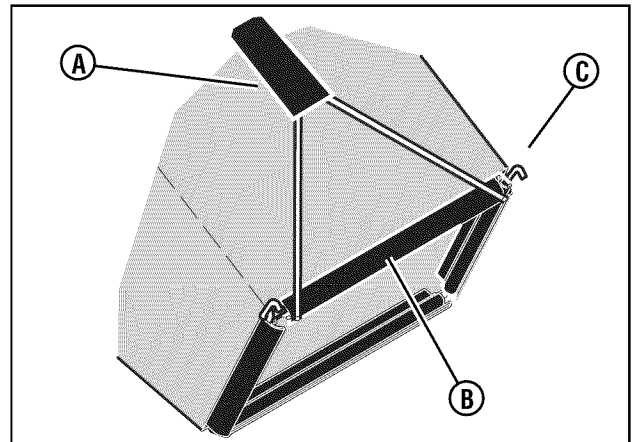

Figure 6: Installing the bag clips
2. Make sure the handle (**A, Figure 6**) is on the outside of the grass bag.
3. First, attach the clips (**B, Figure 6**) to the side of the frame assembly (**C**). Next, attach the clips to the top and bottom of the frame assembly.